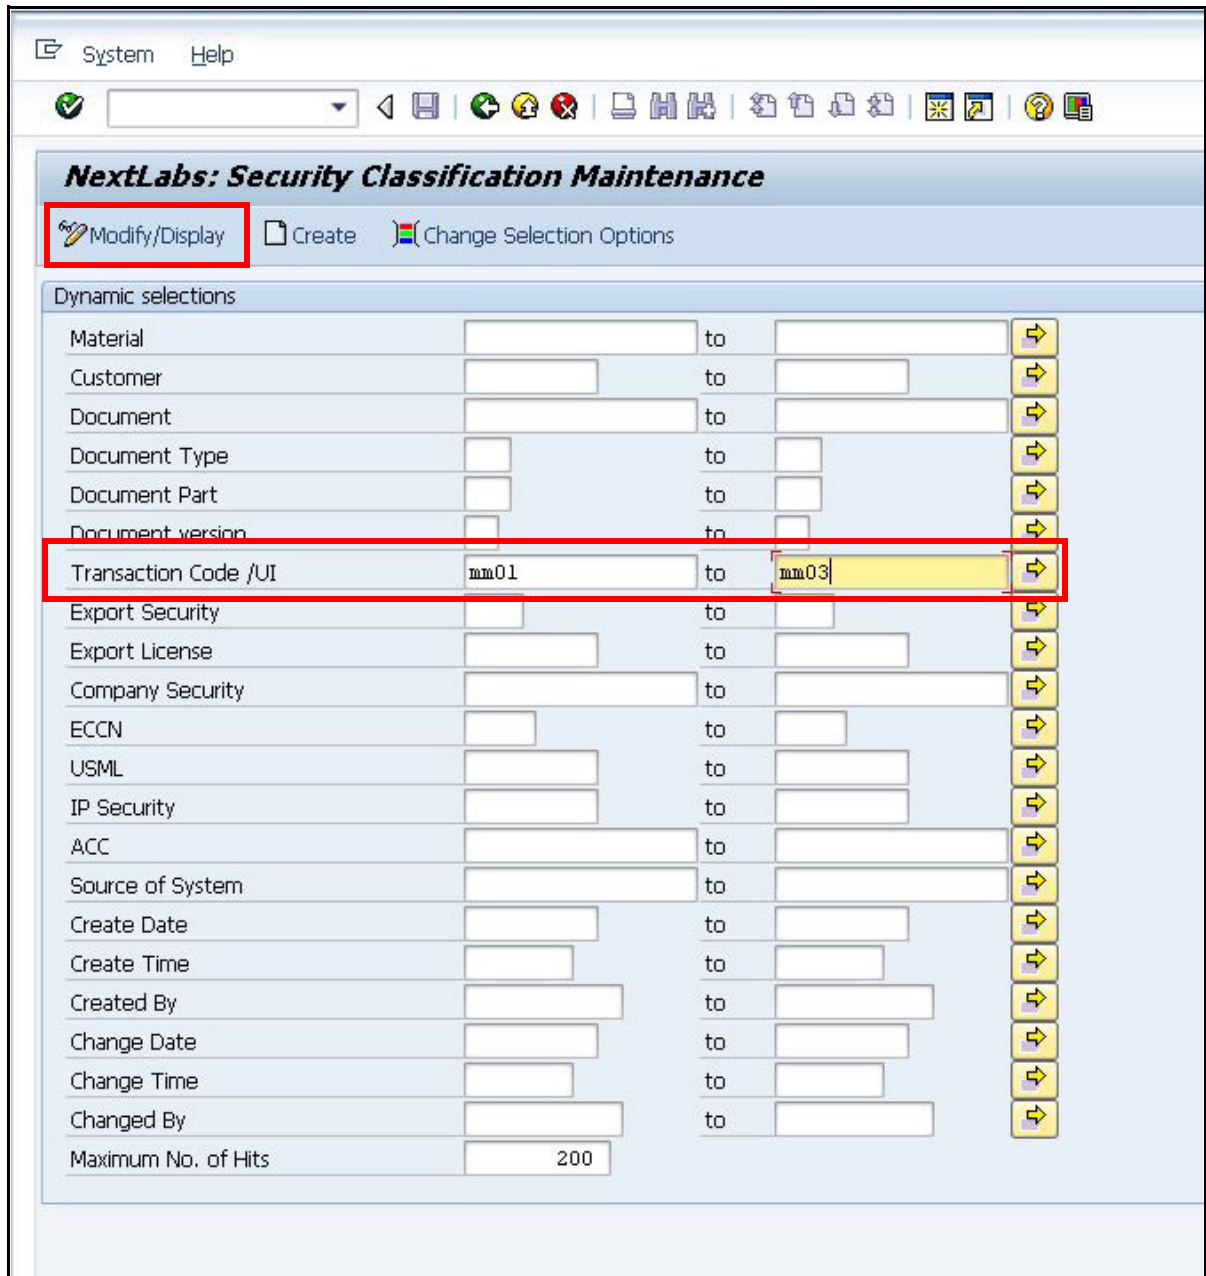

Figure 6-6: Additional Options in the Selection Screen
**Note:** In Figure 6-6, because we selected additional selection options, we now have more options to use for selection. A warning message might display if a user enters selection options that retrieve a large number of records. The number of records that trigger this warning is configured in CONCFG. For more information, see Configuring SAP Data Handling and Connection Settings on page 94.